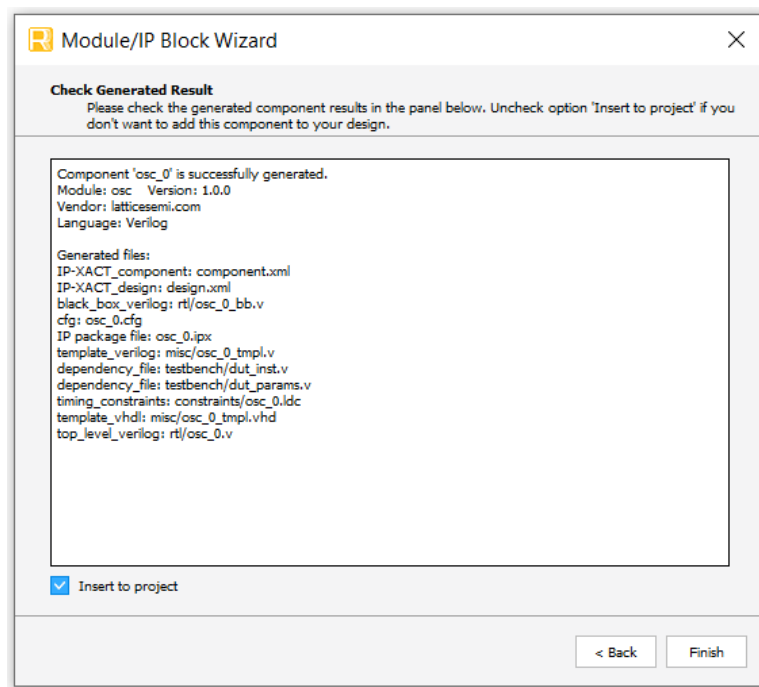

Figure 3.3. Check Generating Result
4. Click **Generate**. The **Check Generating Result** dialog box opens, showing design block messages and results as shown in Figure 3.3.